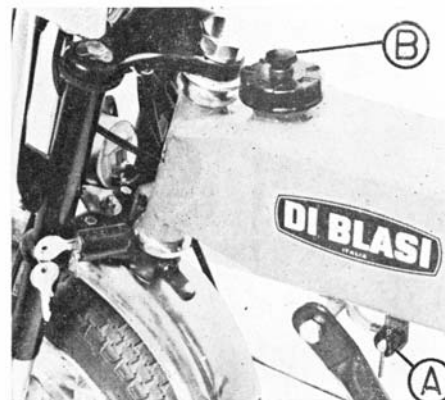

fig. 9
Open the fuel tap located under the tank so that the lever is pointing down-on (fig. 9-A).
Open the air vent hole unscrewing the knurled nut on the tank cap (fig. 9-B).
Close the fuel tap located under the tank so that the lever is pointing forward to OFF. (fig. 9-A).
Close the air vent hole screwing the knurled nut on the tank cap (fig. 9-B). Run the engine until it stops, to consume all the fuel in the carburetor.
- Open the fuel tap under the tank to CN, straight down (fig. 9-A).
- Open the AIR VENT HOLE unscrewing the knurled nut on the tank cap (fig. 9-B).